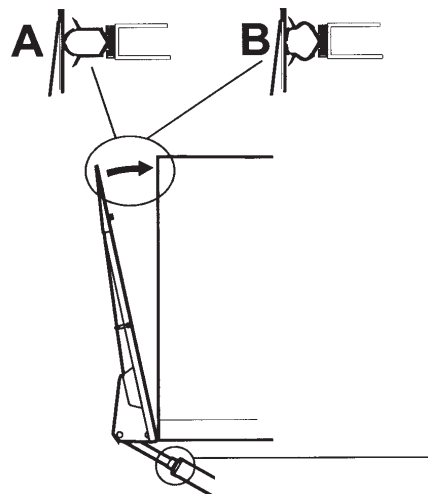

Figure 39. Adjusting the fit to the vehicle body
4. Turn the adjuster sleeve until the platform fits perfectly against the seal on the body. Figure 39.
9. Adjust both cylinders alternately until the platform touches the vehicle body; see Figure 39 (B).